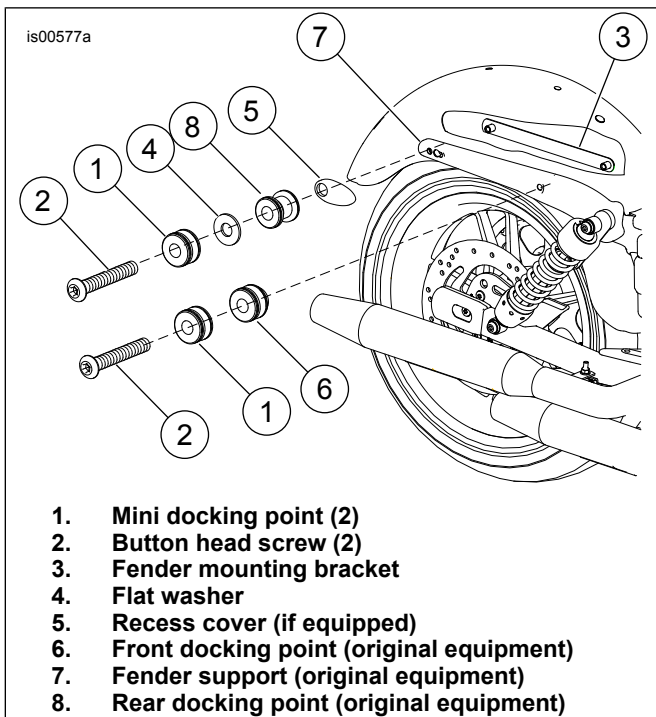

Figure 2. Install Fender Mounting Kit (Models with Detachable Accessories)
5. See Figure 2. **Front Screw:** Install new mini docking point (1) and front docking point (6) onto new button head screw (2). Thread screw through front hole of fender support (7) and into new fender mounting bracket (3).
6. **Rear Screw:** Install mini docking point (1) and washer (4) onto button head screw (2) from the installation kit. Install rear docking point (8) (with flat side of docking point toward washer) and recess cover (5) (if equipped) onto screw. Thread screw through the rear hole of the fender support (7) and into the new fender mounting bracket (3).